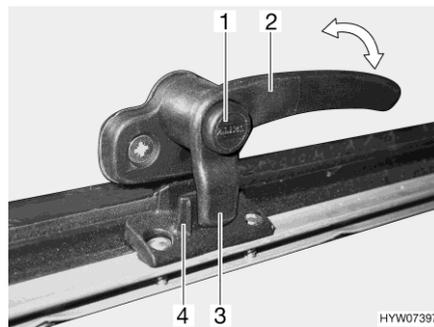
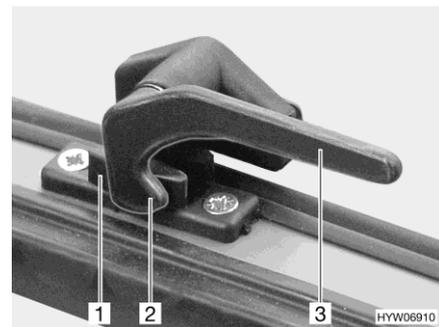

Fig. 89 Catch lever with safety knob in "closed" position
Fig. 90 Catch lever in "closed" position
- Press and hold the security button (Fig. 89,1), if present.
- Turn the catch lever (Fig. 89,2 or Fig. 90,3) a quarter turn towards the centre of the window.
- Turn the catch lever (Fig. 89,2 or Fig. 90,3) a quarter turn towards the window frame.
The locking catch (Fig. 89,3 or Fig. 90,2) on the catch lever is entirely on the inner side of the window catch (Fig. 89,4 or Fig. 90,1).
- "Firmly closed" (Fig. 89 and Fig. 90)